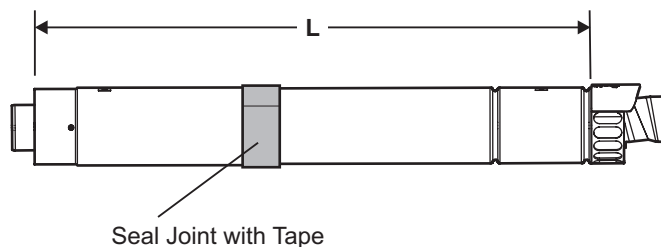

**Fig. 14**
#### 4.6 FIT THE FLUE - Figs. 14 and 15
- When the flue length required is more than the maximum stated in Section 4.6, paragraph 1, refer to the table below and Figs 14 and 15.